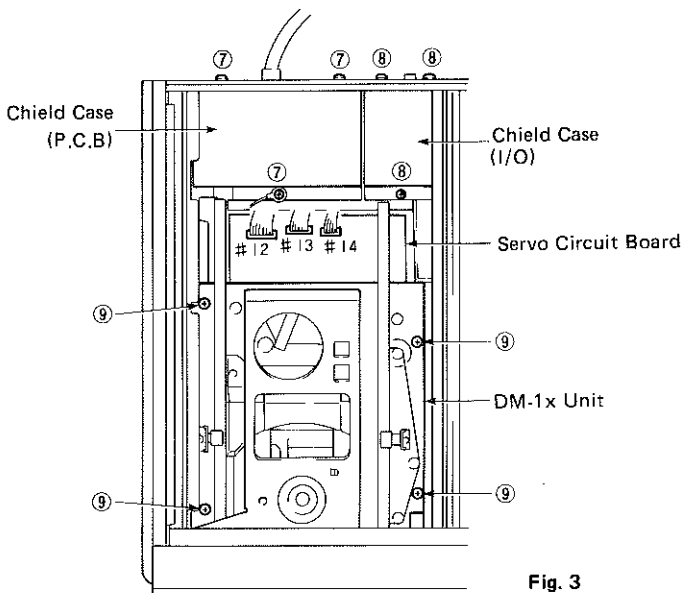

Fig. 3
- a. Remove 3 screws (⑦) in Fig. 3, and then remove the Chield Case (P.C.B)
- b. Remove 3 screws (⑧) in Fig. 3, and then remove the Chield Case (I/O).
- c. Remove 3 connectors (#12, #13, #14) in Fig. 3.
- d. Remove 4 screws (⑨) in Fig. 3, and then pull out the DM-1x Unit gradually.